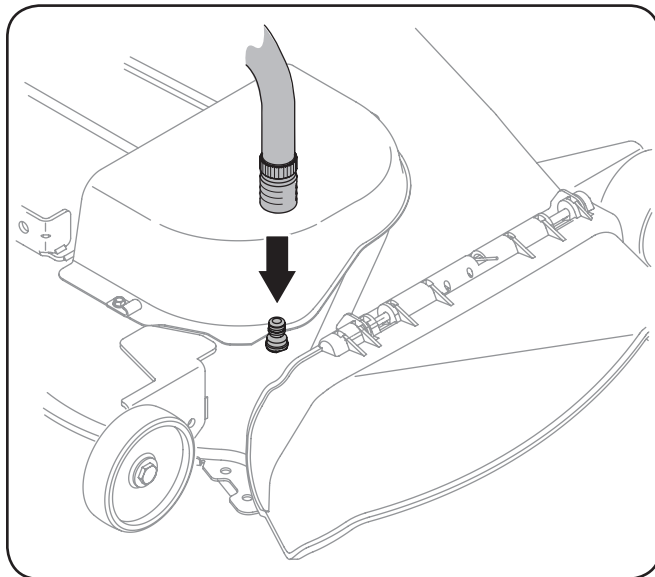

Figure 6-5
3. Attach the hose coupler to the water port on your decks surface. See Figure 6-5.